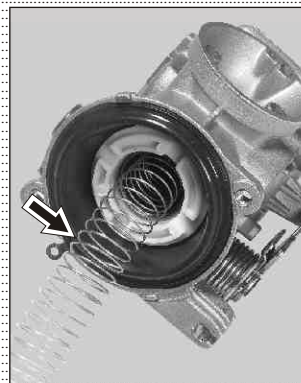

Fig. 4.20A
- Take out spring diaphragm . (Fig. 4.20A)